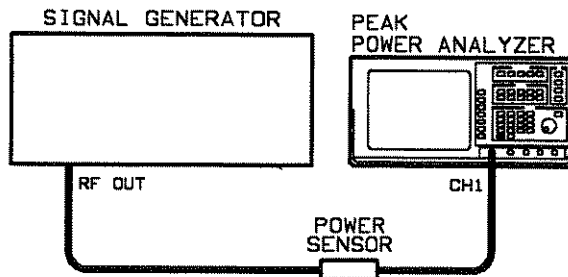

Figure 4-9.
3. Connect the peak power sensor to **CH 1** as in Figure 4-9.
1. Connect the peak power sensor to the signal generator as in Figure 4-9.